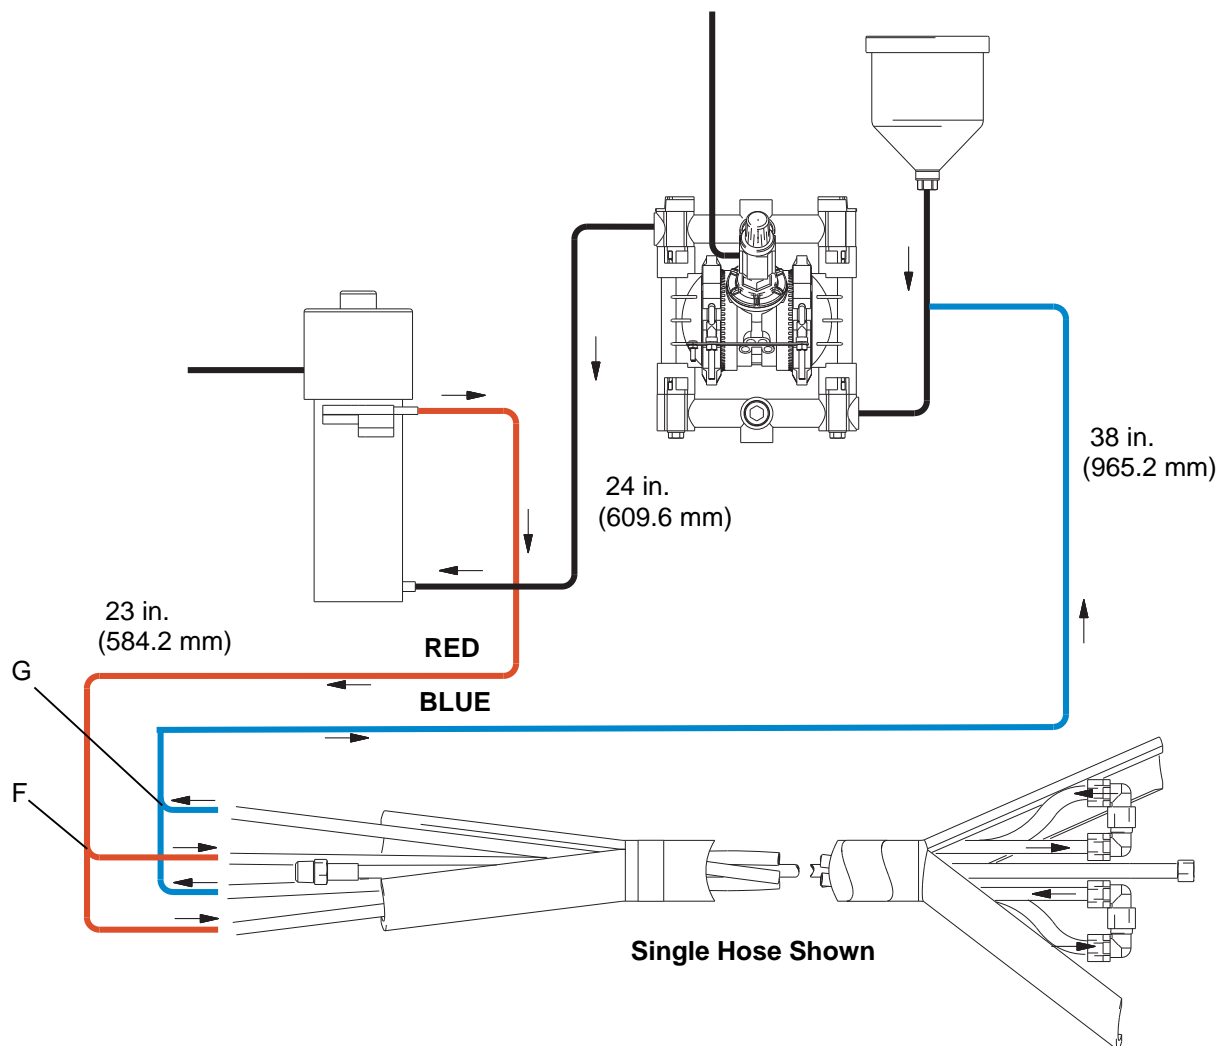

FIG. 6: Fluid schematic for heated hose
- F Heated hose tee and elbow fittings (see heated hose connections on page FIG. 5 and FIG. 6 on page 12 and 13.)
NOTE: See FIG. 6 on page 13 for fluid schematic of heated fluid.
- Heating hoses only. See FIG. 6 on page 13.